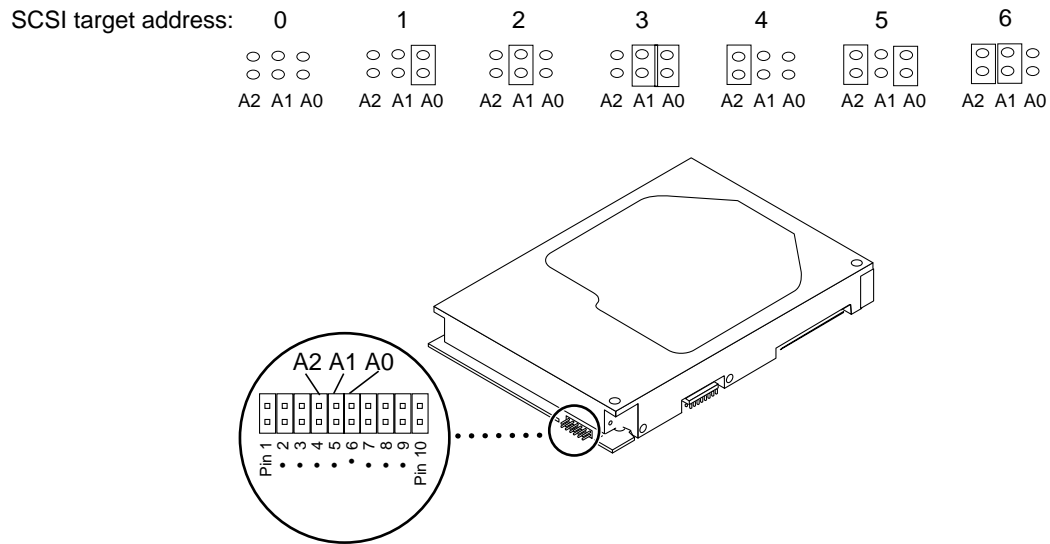

Figure 3-11 Available SCSI Target Address Jumper Settings—Seagate Drive
- See Figure 3-11 for the available SCSI target address jumper settings on a Seagate drive.